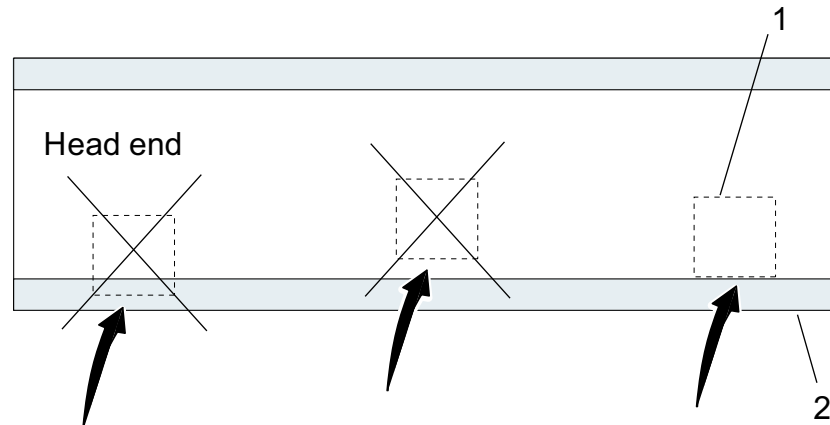

Fig. 4-109 Correct table position
4. Move the overhead tube crane forward/backward along the table frame. The border of the light field must not move from the border of the table frame, see **Fig. 4-109**.